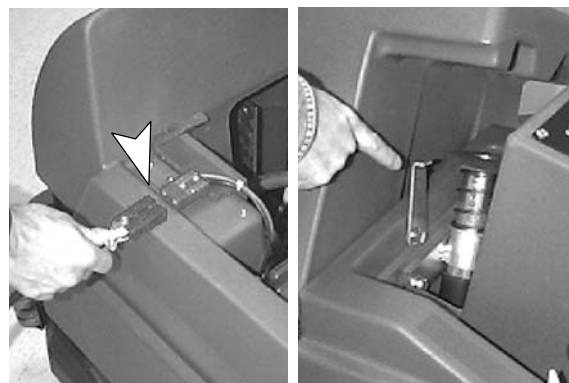

FIG. 19
5. Plug charger's DC output connector to battery connector located near battery compartment. Rest the recovery tank on the support stand to promote ventilation during charging (Figure 19).